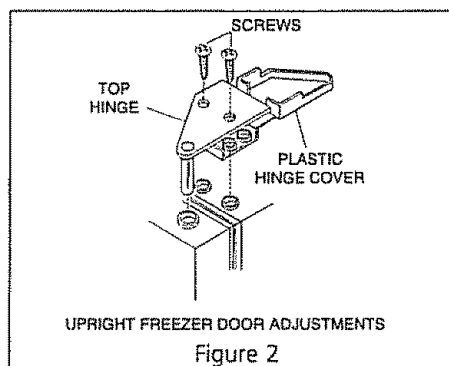

Figure 2
4. At the top of the cabinet, lift up plastic hinge cover, and fold back. (Figure 2 below)
- **On chest models** with a defrost drain, place a shallow pan or the Divider/Drain Pan (some models) beneath the drain outlet (Figure 2). A one half inch garden hose adaptor can be used to drain the freezer directly into a floor drain (Figure 3). Pull out the drain plug inside the freezer, and pull off the outside defrost drain plug (Figure 4 on following page).